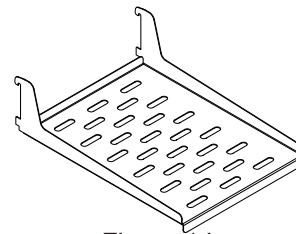

Figure 14
- (1) half width perforated stainless steel cantilever shelf. (See Figure 14).